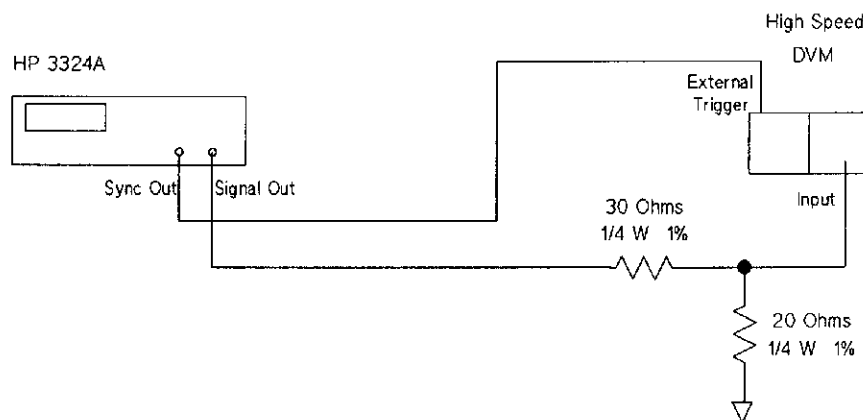

Figure 12-9. Triangle Linearity Test Set-Up
1. Connect the HP 3324A and the high-speed voltmeter through the divider as shown in Figure 12-9.
4. Set the voltmeter delay to 0.00003 (seconds). Record the voltmeter reading on the Performance Test Record under *Positive Slope Measurement, (10%)y₁*. This is the 10% point on the positive slope of the triangle (see Figure 12-9).
6. The reset portion should show more than one line, as in Figure 12-9. The lines should not be separated by more than five divisions on the display.